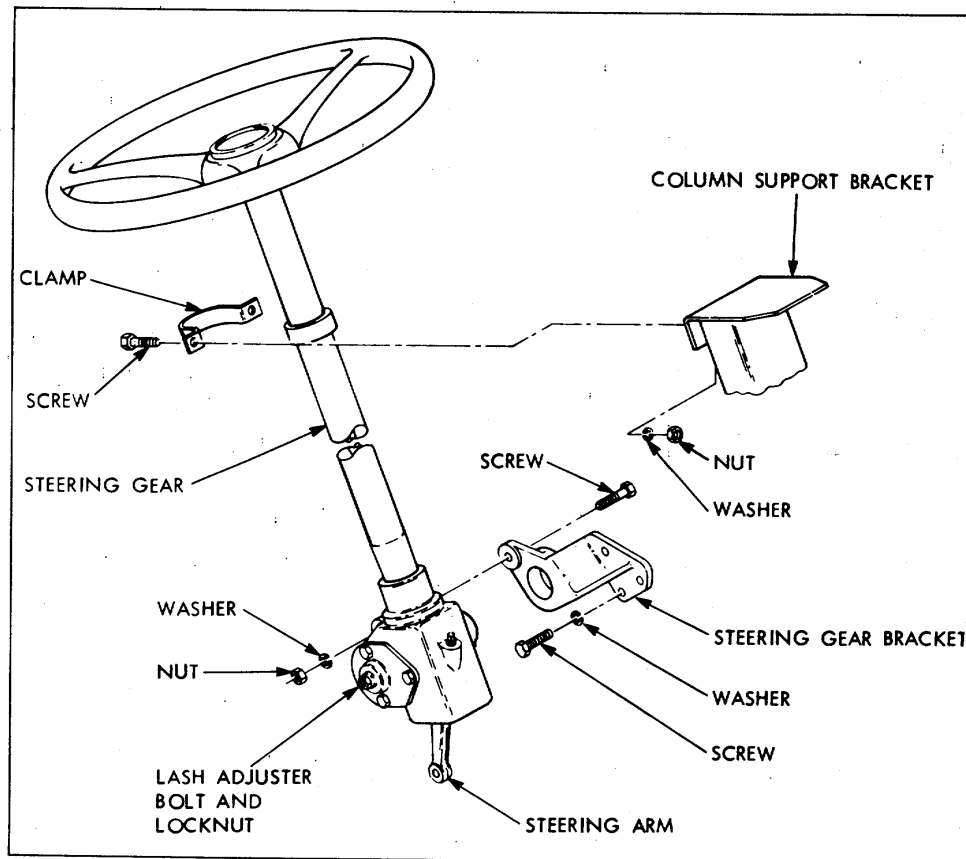

Figure 6-11. Steering Gear Removal, Exploded View
(4) Disconnect drag link at steering arm (paragraph 6-26).
(5) Remove screws, nuts and washers holding gear column to support bracket by clamp (Figure 6-11). Lift out gear.
(6) To remove steering gear bracket, remove nut and washer holding steering arm to shaft, and pull off steering arm with a puller. Remove screws, nuts and washers attaching bracket to gear.
(1) Loosen the locknut (see figure 6-11) on the lash adjuster bolt; then turn the lash adjuster a few turns counterclockwise. This will remove the load from the worm bearings caused by the close meshing of the rack and sector teeth.
(2) Loosen the large locknut on the worm beading thrust adjuster at the lower end of the steering column and turn the thrust adjuster counterclockwise a few turns.
(3) Place a pan under the assembly to catch the lubricant and remove the screws and washers attaching the side cover to the housing.
(4) Pull the side cover with the gearshaft from the housing.